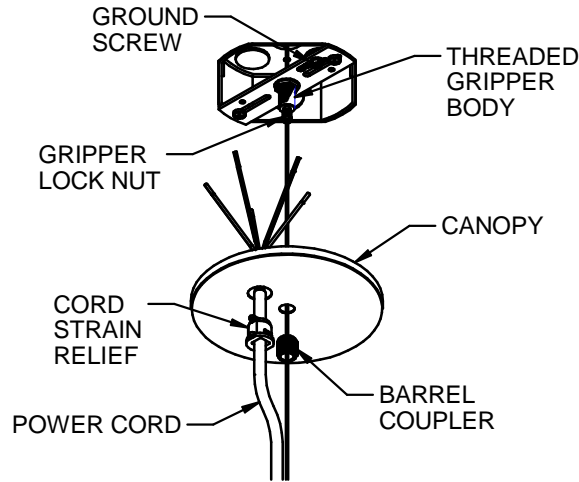

Fig. 3
- Lock the strain relief to the power cord with allowance for wiring connections, and thread the power cord through the canopy wire hole (**Fig. 3**). Snap the cord assembly into the canopy. Make the ground connection to the ground screw on the crossbar assembly and the Green ground conductor on the power cord. Connect the line voltage to the Black conductor, the neutral to the White conductor. Make any dimming control connections to the 2 extra conductors (Purple and Gray, to be connected in the fixture in the next steps – **cap off these conductors if not used**). Make all connections with properly sized, UL listed connectors. Thread the 20 foot cable through the canopy coupler, and slide it up to the canopy. Place the wiring and connections into the junction box and push canopy up flush to the ceiling surface. Thread the barrel coupler onto the threaded gripper body to retain the canopy. Tighten the cable gripper lock nut on the cable.